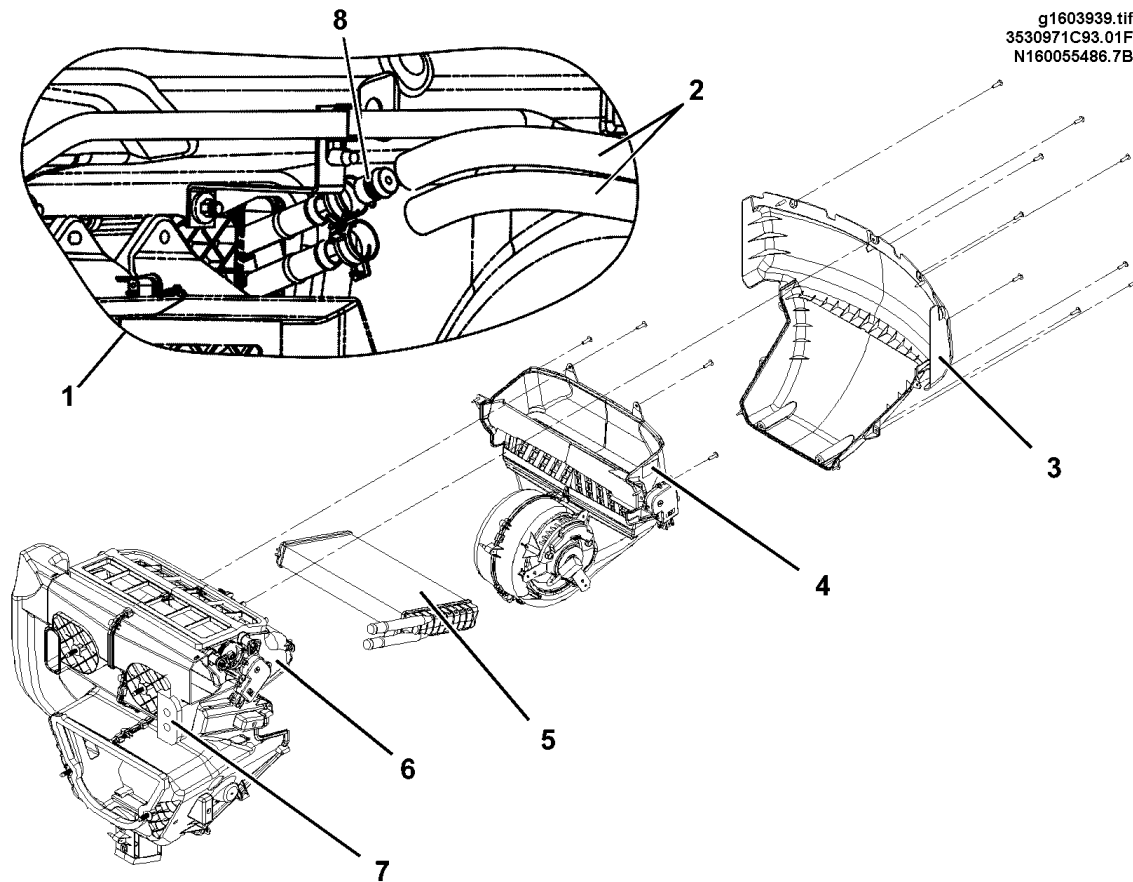

Figure 39 Heater Component Locations
NOTE – Refer to Figure 39 while performing the following Remove and Install procedures.
3. Disconnect both heater hoses (2, Figure 39) from heater core tubes on engine side of cowl.
1. From inside cab, carefully position heater core (5, Figure 39) in heater housing (6) so that tube ends of core protrude through dash panel seal (7).
2. Install blower scroll housing (4) and heater trim panel. Refer to BLOWER SCROLL HOUSING, REMOVE AND INSTALL (See BLOWER SCROLL HOUSING, page 102).